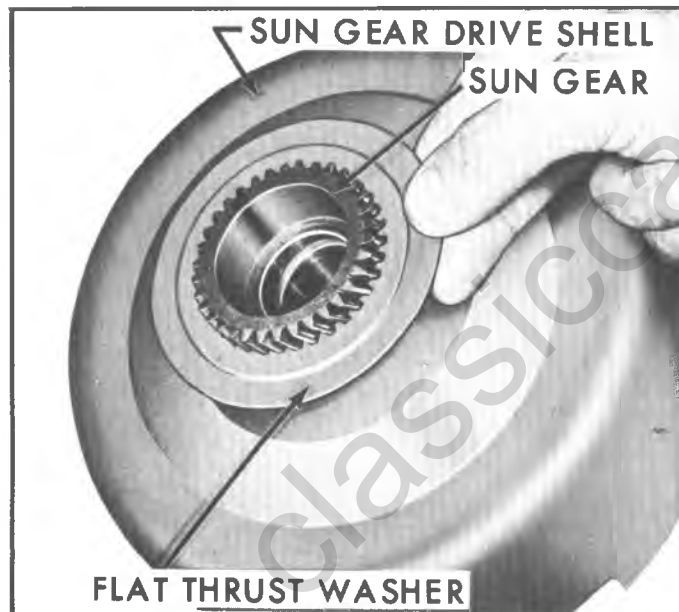

Fig. 87M-Removing Sun Gear to Drive Shell Rear Steel Thrust Washer
2. Remove sun gear to drive shell flat rear steel thrust washer (fig. 87M).